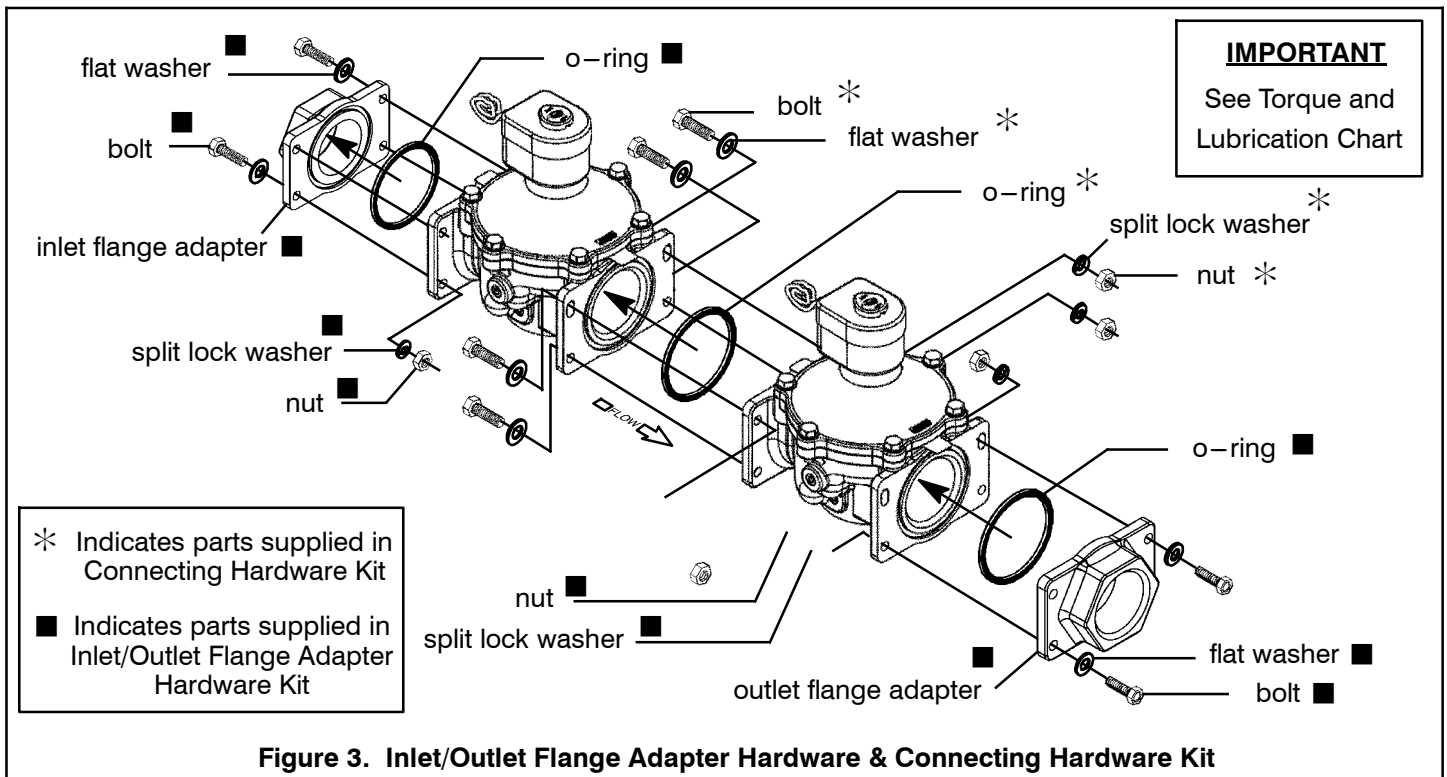

Figure 3. Inlet/Outlet Flange Adapter Hardware & Connecting Hardware Kit
8. Install the double valve assembly between the upstream and downstream flange adapters while ensuring that the o-ring is properly seated in upstream flange and in downstream valve outlet flange. It may be necessary to spread the pipe nipples and install the flange adapters to gain adequate clearance for the valve assembly installation. Install the required hardware in Figure 3 in the upstream flange adapter to valve inlet only and make hand tight. Adjust upstream flange adapter and valve to ensure that the exterior edges of the valve flange and flange adapter are parallel and flush to one another. Apply torque to hardware in an alternating manner to the specified torque called for based on hardware size (See. Table 1).